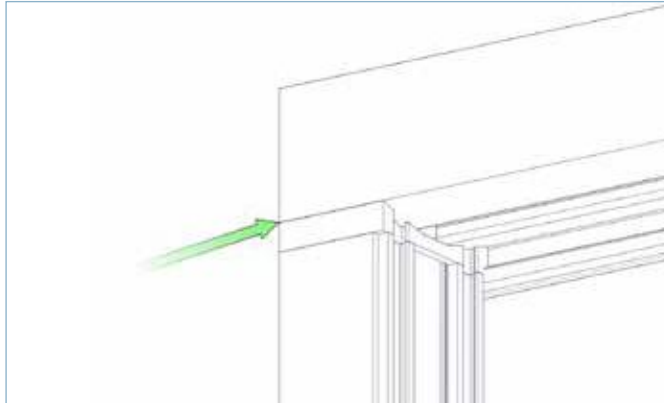

FIG 5D
- ▶ **5.5.** Align the end of the top track with the top of the jamb as shown in FIG 5D.